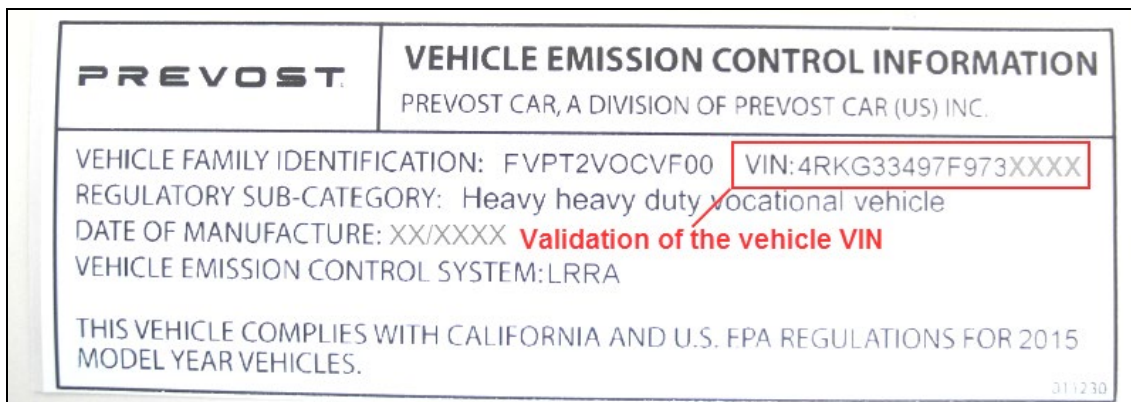

FIG.2 VALIDATE VEHICLE VIN BEFORE FINAL INSTALLATION - US BUILD VEHICLE SHOWN
- Vehicle VIN must match VIN on the new decal (see Fig 2).